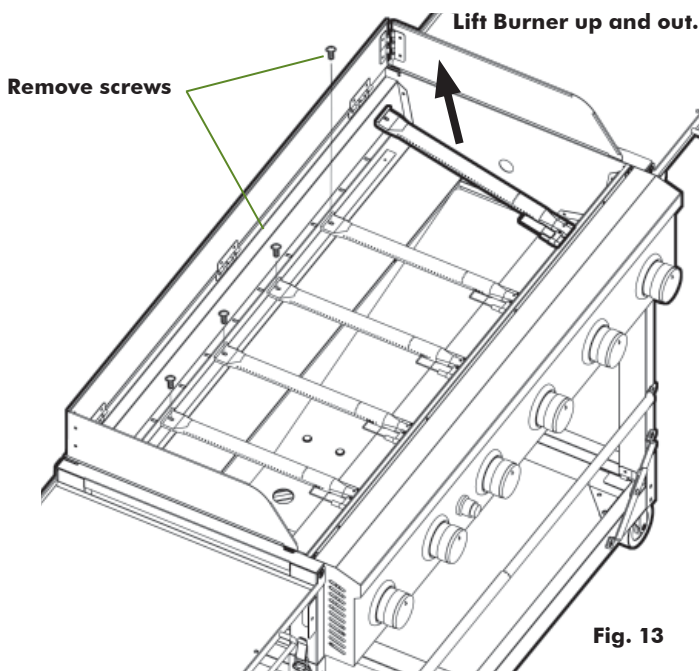
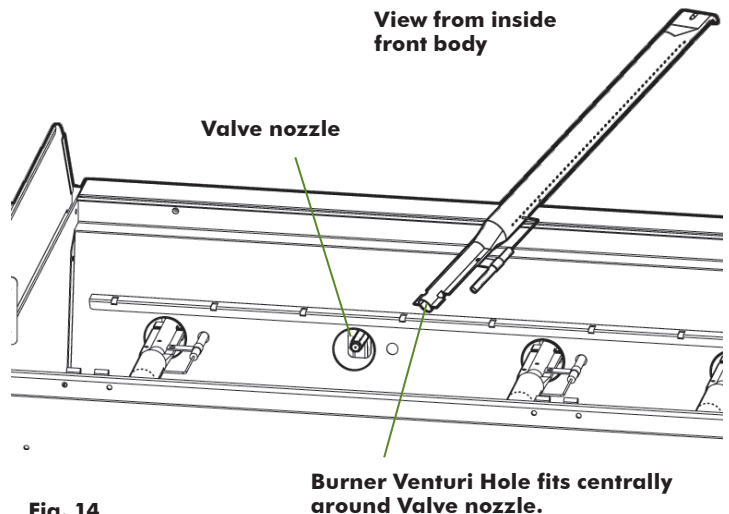

Fig. 13
Fig. 14
3. To remove each Main Burner, first remove the screw that fastens the burner flange to the firebox. (Fig. 13)
4. Gently lift the rear of the Burner. (Fig. 13) Slide the Burner towards the grill back to move the Venturi Hole off of the Valve nozzle. (Fig. 14) Lift each Main Burner from the grill. To completely remove the burner from the grill, disconnect the electrode wire from the back of the igniter box behind the control panel and carefully pull the wire through the inside of the firebox